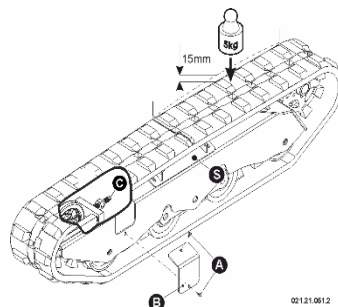

fig. 5.5 - Track Tension Adjustment
- Verify that the deflection is 15 mm near the front or rear midpoint relative to the central guide "S" of the track (see fig. 5.5);